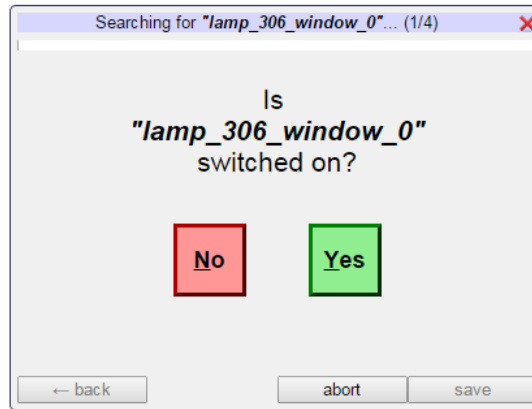

Figure 77: DALI Search Wizard.
5. This starts a binary search to identify the ballast(s). A dialog as shown in Figure 77 appears.